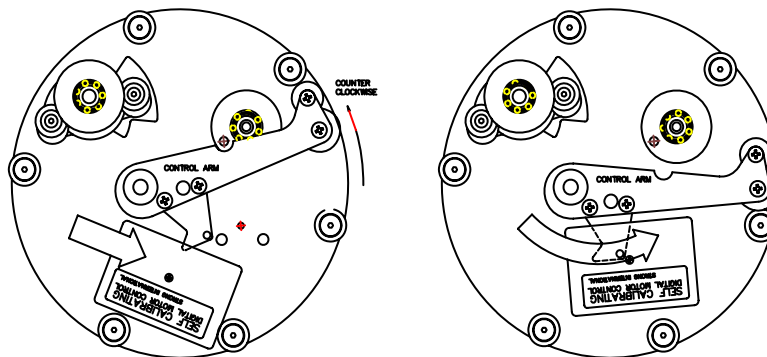

Figure 2
2. Install the new SCDC Pay-Out Control in the reverse order (see Fig. 2). Connect the wiring harness to the control. Mount the control on the plate using the screws provided. Make sure the spring retainer is secured by one screw.